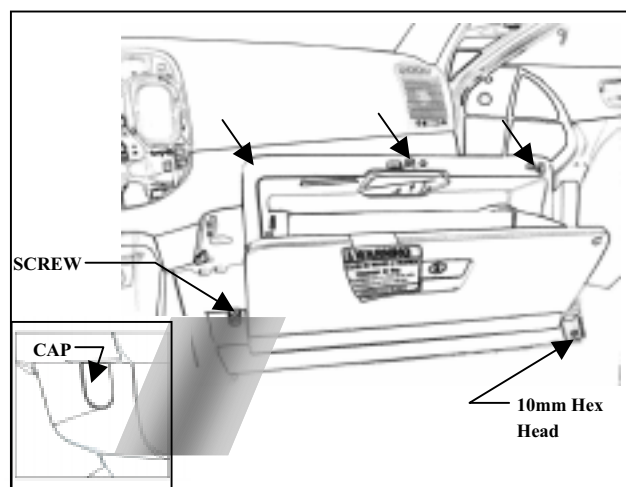

Figure D2
- ➡ i. Remove the 10 mm bolt on lower right side of glove box. (Figure D2).
- ➡ ii. Remove cap on lower left side of glove box using the small tip NRT to reveal Phillips screw and remove. (Figure D2 inset).
- ➡ 3. Remove 3 Phillips screws from top of glove box (Figure D2) and remove glove box.